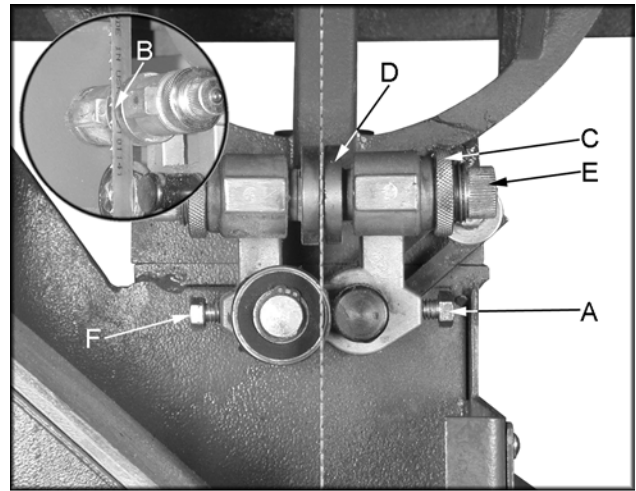

Figure 7
3. Loosen bolt (A, Figure 7) and position the blade guide assembly so that the guides rest just behind the gullet of the blade teeth (B, Figure 7). Tighten the bolt.
4. Loosen the knurled jam nuts (C, Figure 7) that lock the guide (D, Figure 7) in place.
5. Turn the knurled knob (E, Figure 7) so that the guides rest lightly against the blade, approximately 0.003" away from the side of the blade, about the thickness of a piece of paper. **Do not** force the guides against the side of the blade. Tighten knurled jam nuts while holding the knurled knobs.
6. Adjust the blade support bearing so that it is 0.003" away from the back of the blade, about the thickness of a piece of paper. To make this adjustment loosen bolt (F, Figure 7) and slide the bearing and bearing post into position. Tighten the bolt.